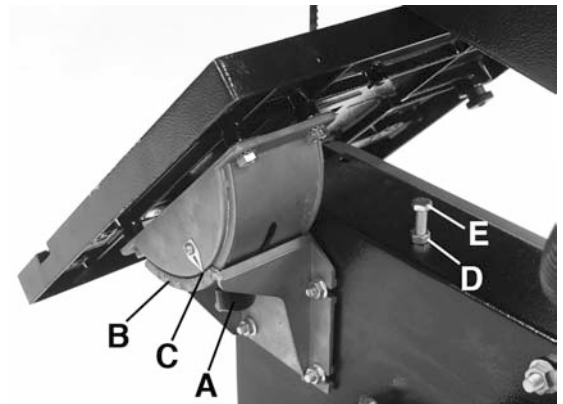

FIGURE 8
- 1) Loosen the table lock knob (A) Fig.8.
- 2) Tilt the table to the desired angle using the bevel angle scale (B) Fig.8 and pointer (C) as a guide.
- 2) Loosen the table lock knob (A) Fig.8.
- 4) Set the table to a perfect 90° angle to the blade and lock the table using the table lock knob. Loosen hex. nut (D) Fig.8 under the table and turn the table 0° positive stop bolt (E) until it touches the table. Retighten the hex. nut after the adjustment is done.
- 6) Adjust the pointer (C) using a #2 Phillips screwdriver, position pointer at the 0°, retighten pointer screw.